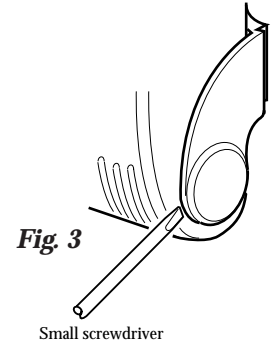

Fig 3
- Carefully separate the sensor from the backplate using a small screwdriver (see Fig 3) Note: the sensor will remain connected by its internal cable.